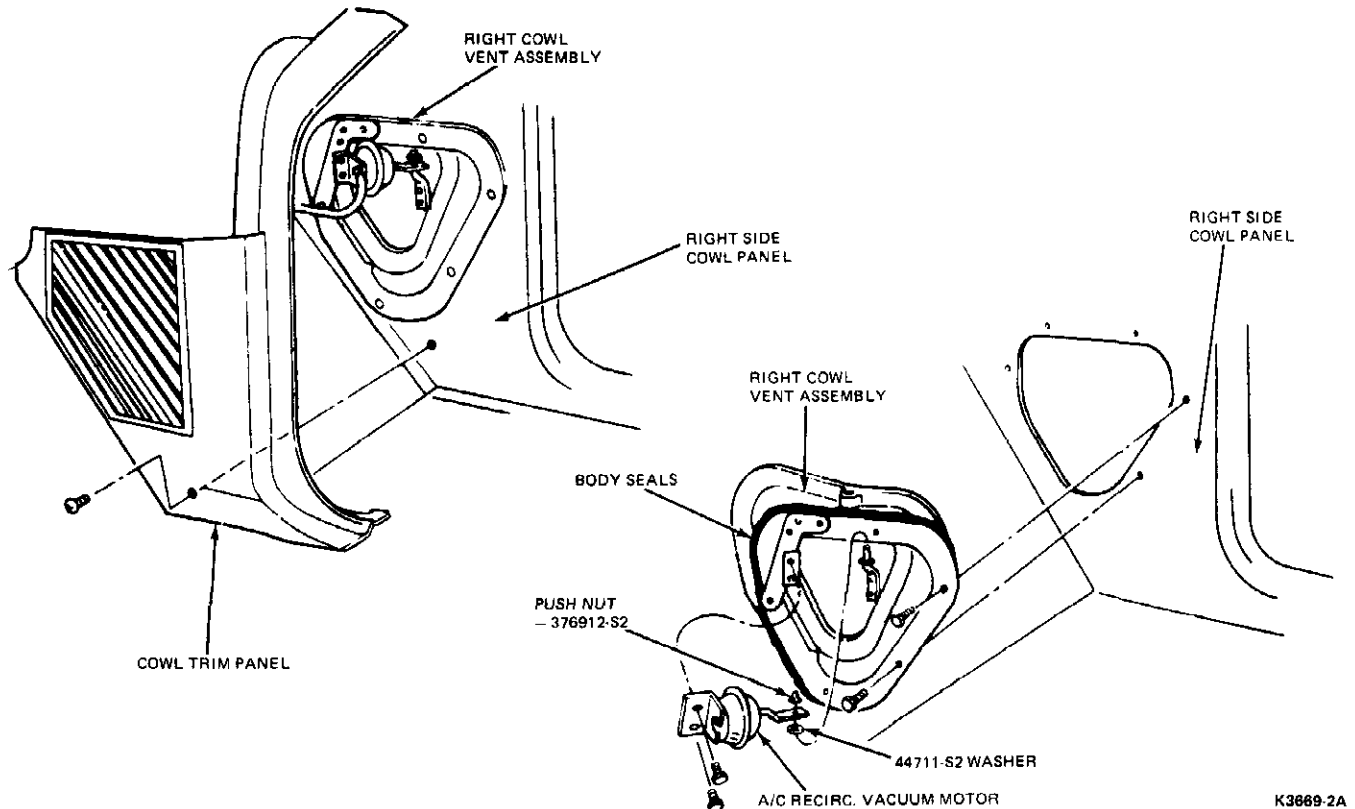

FIG. 36 1978 Ford, Mercury and Lincoln Continental A/C Recirculating Air Inlet
2. Remove the right cowl side trim panel (Fig 36).